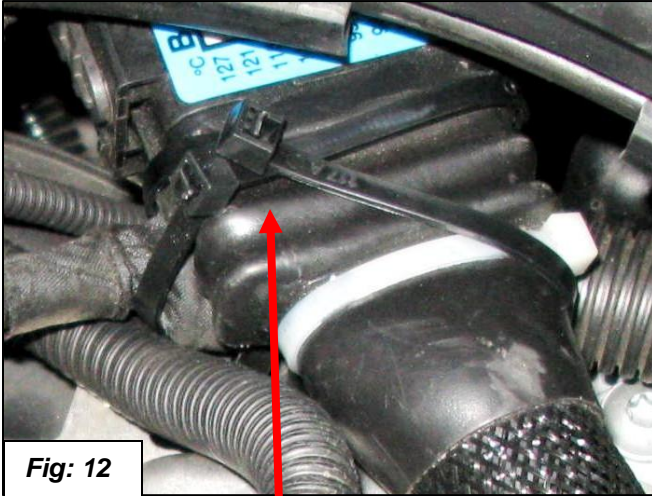

Fig: 12
13. Swing all the Interrupt sections down out of the way and position and zip tie them as shown in figures 12, 13 and 14.